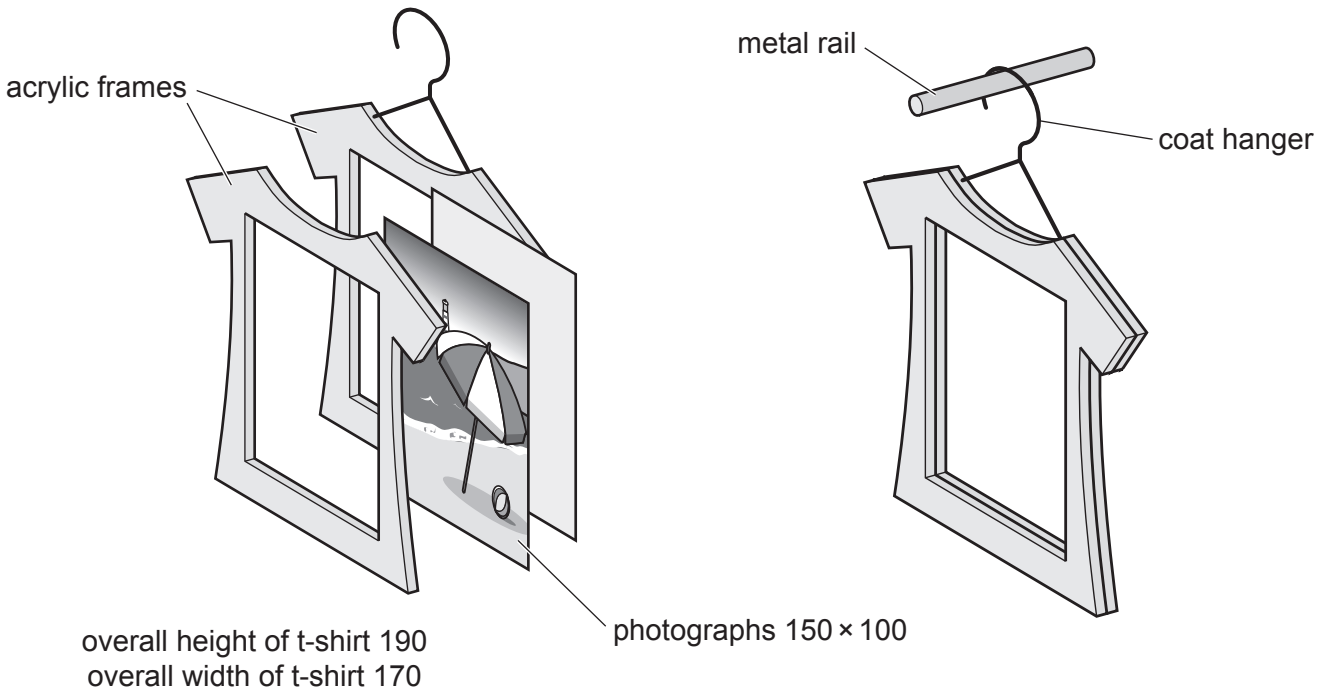

Fig. 13.1
- 13 Fig. 13.1 shows views of a design for a novelty photograph holder made of 4 mm thick acrylic in the shape of a t-shirt. The t-shirt has a coat hanger suspended from a metal rail. Two photographs can be 'sandwiched' between the two acrylic frames.